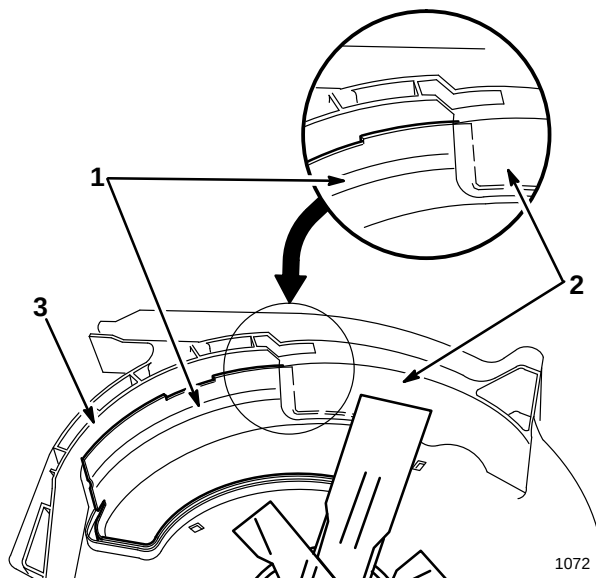

Figure 39
8. Check the clearance between the blade tips and the baffle, ensuring that there is no contact (Fig. 39).
Note: The baffle must go behind the front deck baffle and between the blade and toe guard to prevent contact with the blade (Fig. 39).
9. Check the clearance between the blade tips and the baffle, ensuring that there is no contact (Fig. 39).